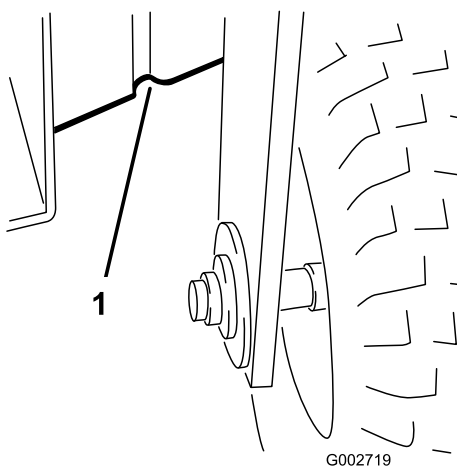

Figure 20
- Front-under the frame behind the front wheel (Figure 20).